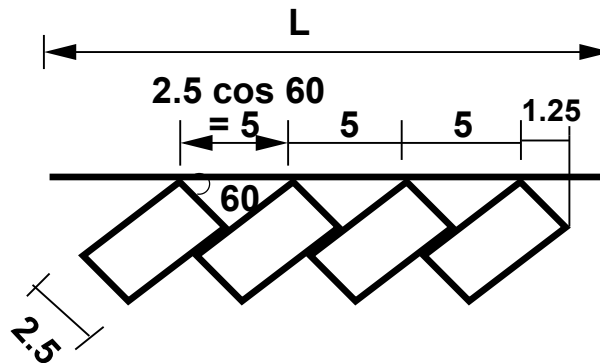

Figure 38:4: Illustration of 60° parking
5. Right angle parking: Here the vehicles are parked perpendicular to the direction of the road. Hence it consumes maximum width. Curb length required is very little. Hence there are chances of severe accidents. Also it causes obstruction to the road traffic. But it can accommodate maximum number of vehicles. An example is shown in figure 38:5.